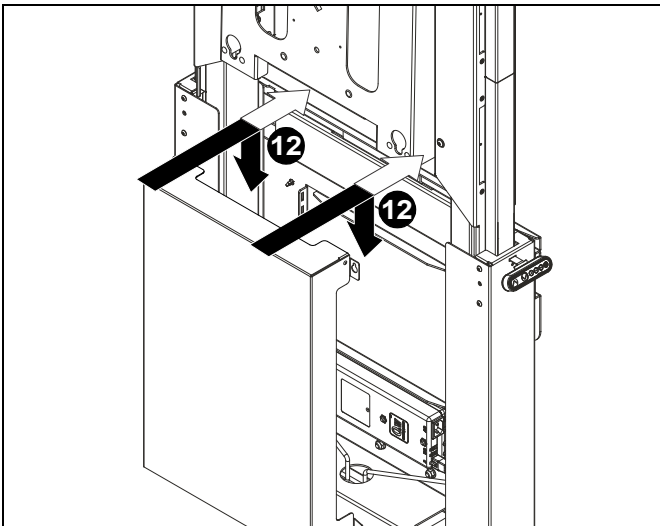

Figure 28
12. Reinstall inner cover and tighten Phillips screws to secure it in position. (See Figure 28)